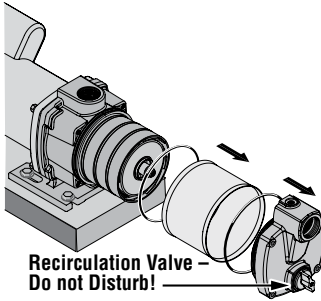

Figure 3
6. Pull the pump suction body forward (see Figure 3). Remove the sleeve (Ref. No. 9) by pulling it straight forward. Be careful to not damage the O-rings on the bracket and suction body.